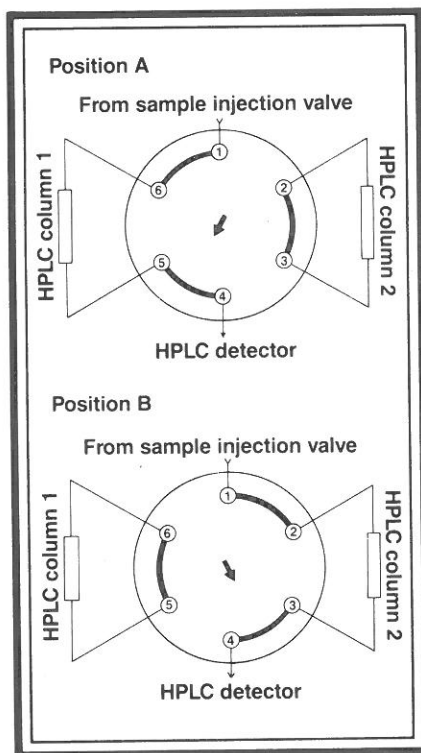
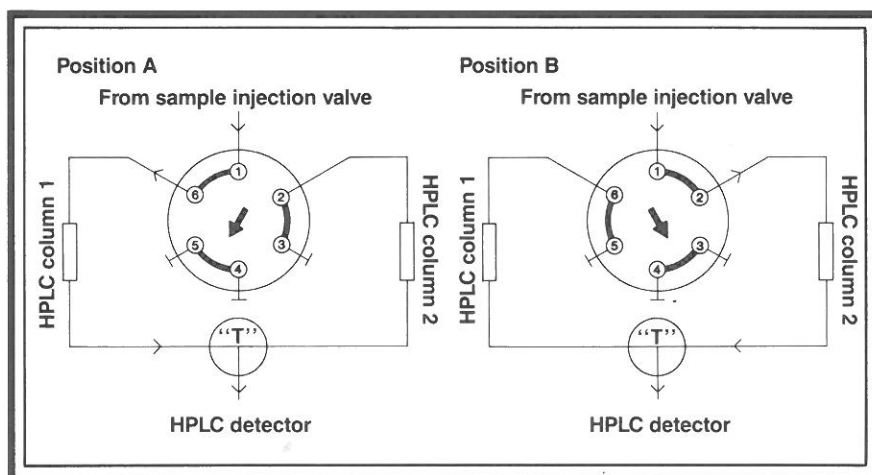

FIGURE 1: The selection of two HPLC columns using a 6-port valve.
FIGURE 2: The selection of two HPLC columns using a 6-port valve and a T.
**Column selection using two-position HPLC valves:** Two HPLC columns can be selected using a 6-port valve, as shown in Figure 1. The Valco C6W valve is the best 6-port valve for column selection because this valve has the smallest internal volume of any 6-port HPLC valve presently on the market. Each valve port has a volume of 0.15  $\mu$ l, and each slot has a 0.5- $\mu$ l volume. The C6W adds 1.6  $\mu$ l extracolumn volume to the chromatographic system in Figure 1
By using the system shown in Figure 2, it is possible to lower the extracolumn volume of the 2-column selector to 0.9  $\mu$ l. This volume includes the valve and manifold but not the interconnecting tubing. Since the HPLC column exit lines go directly to the T manifold, the interconnecting tubing between the column and the column selection valve/manifold (Figure 2) can be much shorter in the valve/manifold system than in the selector valve system (Figure 1). This lowers the extracolumn volume of the entire system. The T used in Figure 2 has a 0.010-in. i.d. connecting port and contributes 0.1  $\mu$ l volume to the system.